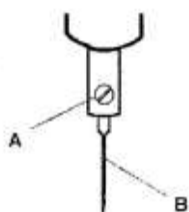

Fig.3
Having chosen the right thickness (size) of needle whose system corresponds to the prescribed kind (usually 134 LR) loosen screw (A, fig.3) on needle bar and insert needle (B) as far as it will go, i.e. up to the bottom of the needle hole in the needle bar. Turn the needle so that the recess above the needle eye faces the looper point. Caution – when a greater needle size has been chosen it is necessary to check if the looper point does not catch the needle – a possible adjustment of looper position must be carried out by an authorised person. Make sure that the needle passes through the middle of the stitch plate opening. If it is not the case, check up if the needle is not bent. Replace the defective needle.